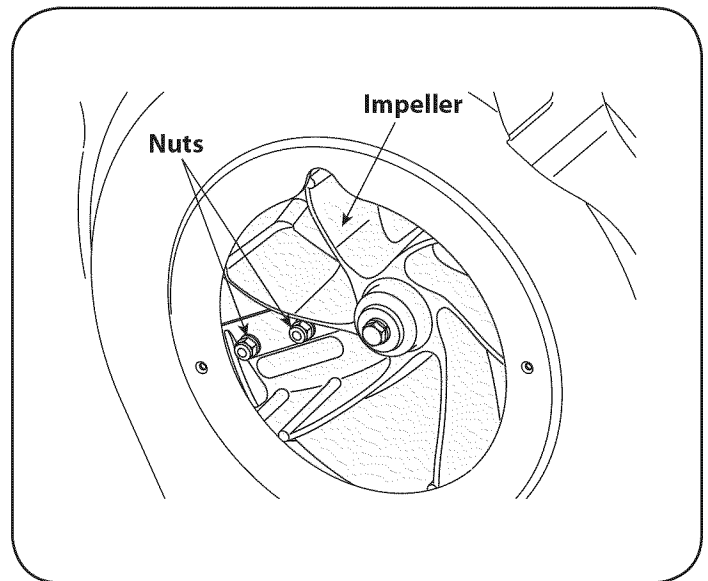

Figure 31
- The nuts on the flat head cap screws can be reached from underneath using a 1/2-inch socket, universal, and extension. See Figure 31.